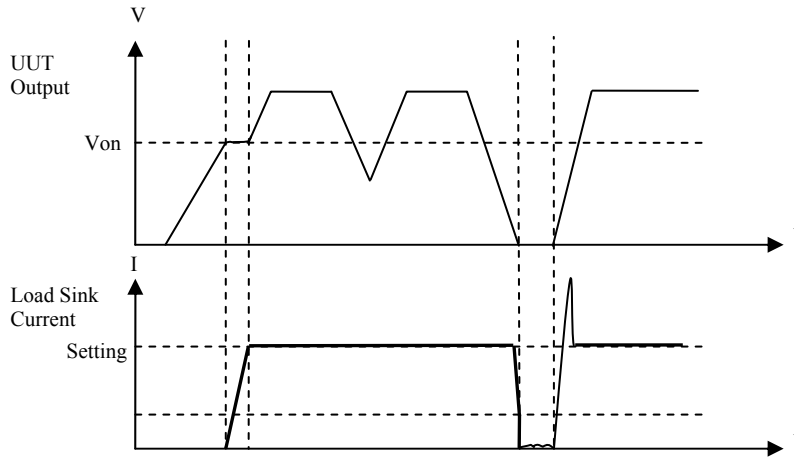

Figure 3-18 Von Point is not set to 0V without Protection
- (4) When it is “LOAD ON”, VON POINT is not set to 0V and Von Protection is disabled, switch the SW to on after it was turned off for a period of time and then turn it off again. The current loading still goes on when there is no power, and overshoot may occur once the SW is turned off with any power input as Figure 3-18 shows. It may damage the UUT and the DC Load in this case.